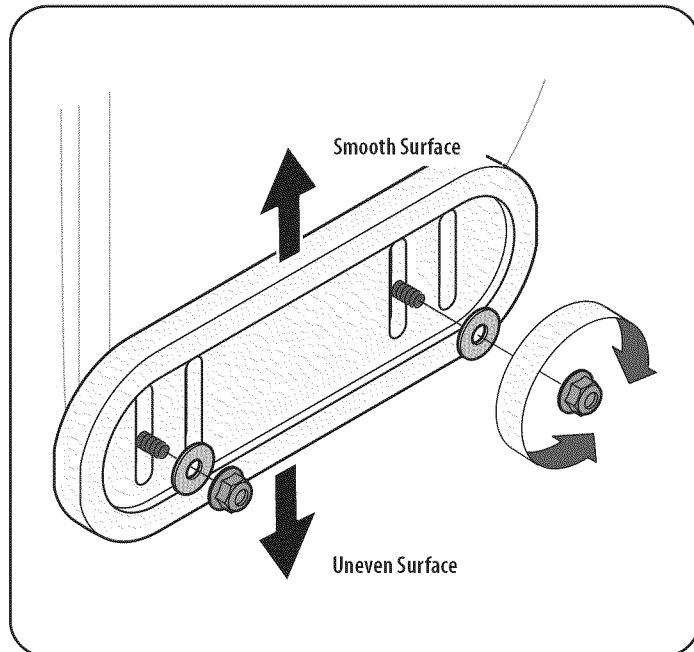

Figure 14
- For close snow removal on a smooth surface, raise skid shoes higher on the auger housing. Refer to Figure 14.
1. Loosen the four hex nuts (two on each side), flat washers, and carriage bolts. Move skid shoes to desired position. See Figure 14.